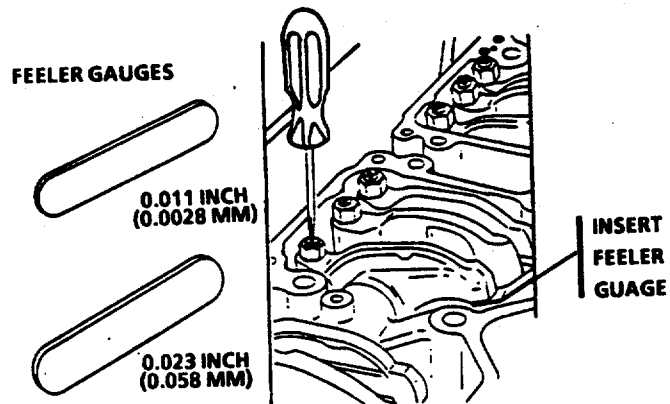

FIGURE 3-27. *Checking Valve Lash (Feeler Method).*
- (c) Insert the feeler gauge between the top of the crosshead and the rocker lever pad. (Refer to FIGURE 3-27 .)